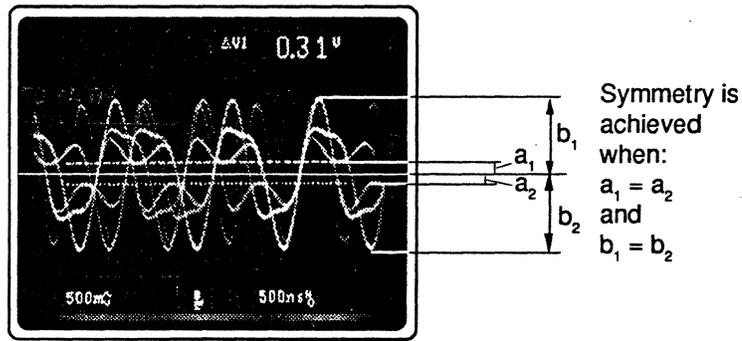

Figure 9.4 Write Symmetry Adjustment
- ① Select 60H data pattern using *Alt F8*
- ② Adjust the Write Symmetry until the Read output is symmetrical (see Figure 9.4). Both the "zero line distance" and the signal peak values shall be symmetrical.